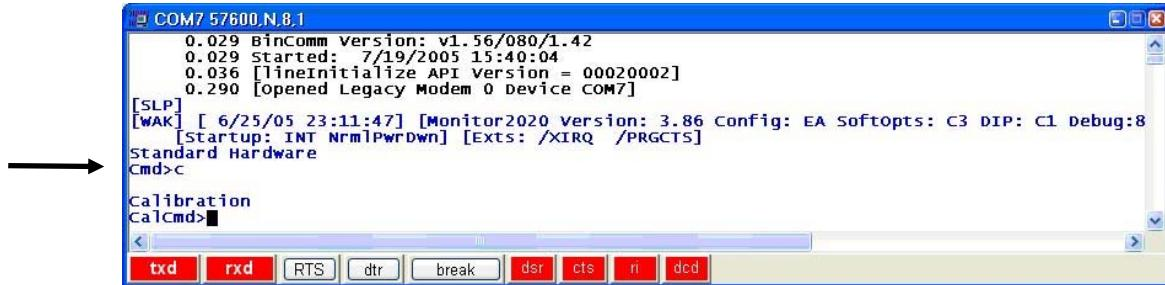

Fig. 9.2: Enter Calibration Mode
- 9.2.4 On the floating terminal screen, assert **rts** (Alt-R or click on “rts”). This awakens the Monitor from sleep mode. (Fig. 9.2)
- 9.2.5 Type a **c** at the **Cmd>** prompt (**Cmd>c**) to enter the **Calibration Mode**. Fig. 9.2